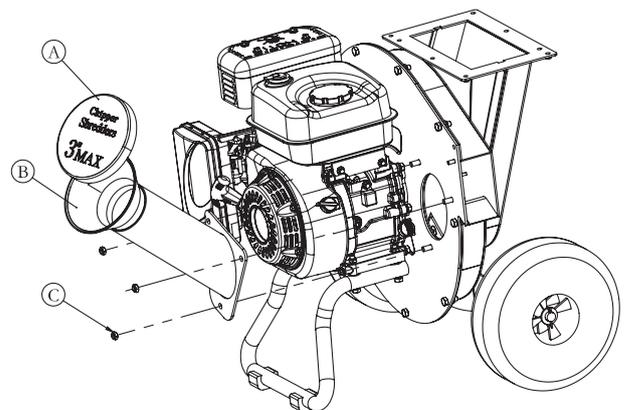

Figure 8
Inspect Chipping Knives (See Figure 8)
2. Remove the nuts securing the chipper cone to the front of the chipper. Remove the chipper cone to access the knives. SEE FIGURE 8